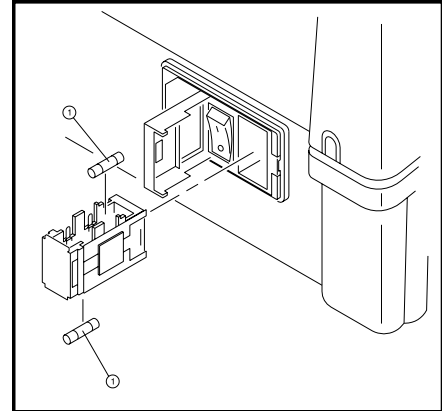

**Figure 5.2
4. Insert a very small flat-blade screwdriver into the notch on the fuse cover and pry off the cover as shown in Figure 5.2.